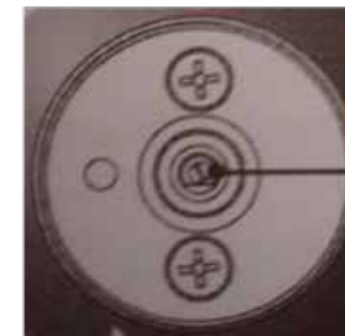

Figure 2
Minimum flow of non-valved cooking hob taps (Figure 2)
- Insert a small screwdriver into the shaft of the gas valve and adjust the internal screw until the correct low flame is obtained; see figure 2